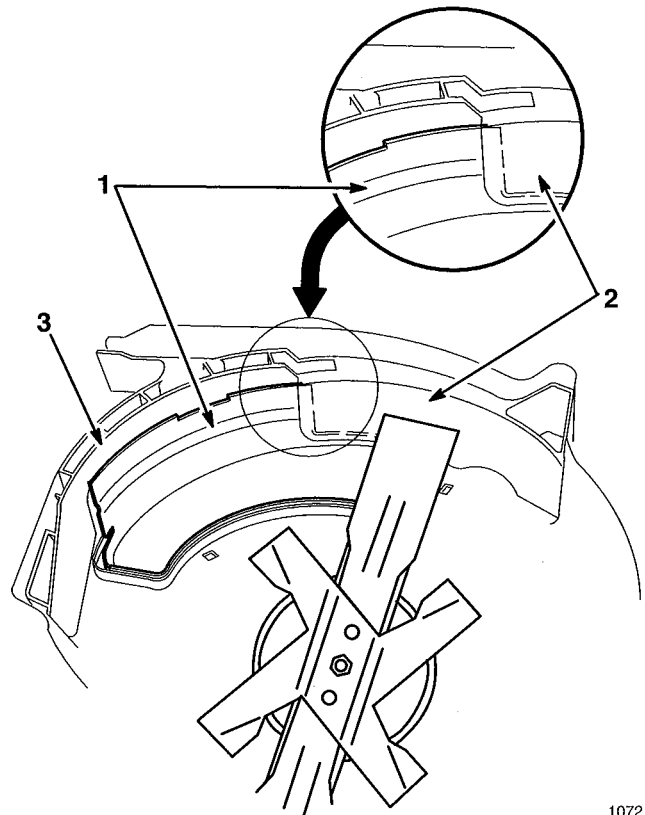

Figure 42
6. Check clearance between blade tips and mulch plate baffle making sure there is no contact (Fig. 42).